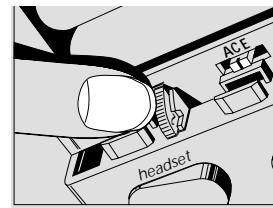

Figure 4-4. Adjusting the Transmit Control.
4. Make a call and adjust the transmit control according to the level indicated in Table 4-1 or to a satisfactory level. See Figure 4-4.